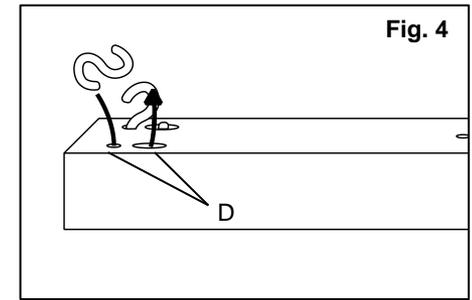

Fig. 4
1. Insert an **S-Hook** into each of the four holes (D) on the corners of the **fixture**. (Fig. 4)